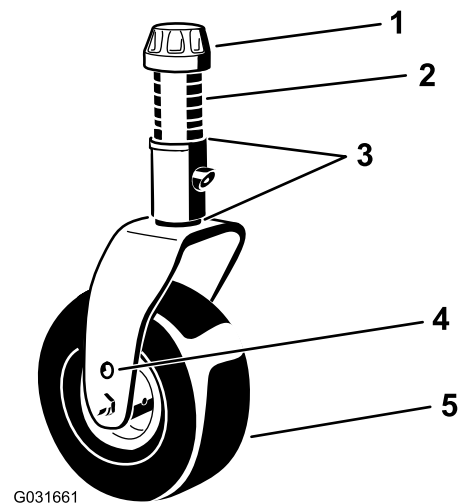
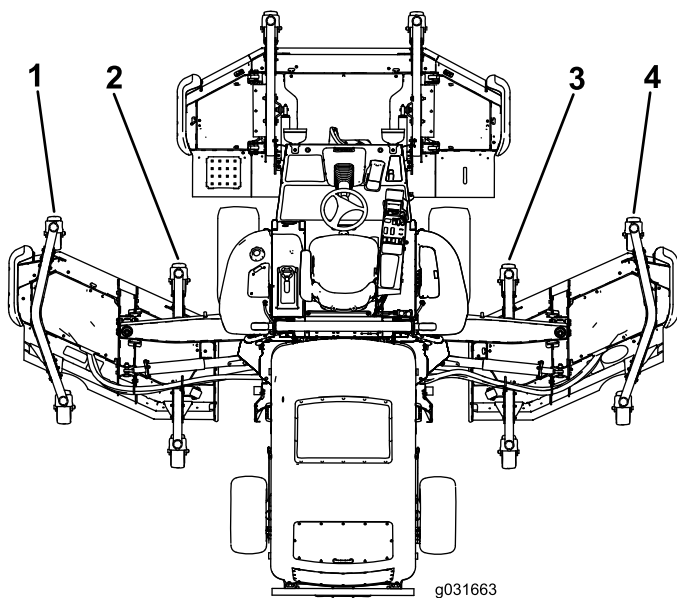

Figure 31
Figure 32
5. If the inside edge of the side mower deck is too high relative to the outside edge of the front mower deck, remove 1 shim from the bottom of the front, inside caster arm on the side mower deck (Figure 31 and Figure 32).
- If the inside edge is still too high, remove an additional shim from the bottom of the front, inside caster arm of the side mower deck and 1 shim from the front, outside caster arm of the side mower deck (Figure 31 and Figure 32).
- If the inside edge of the side mower deck is too low relative to the outside edge of the front mower deck, add 1 shim (1/8 inch) to the bottom of the front, inside caster arm on the side mower deck (Figure 31 and Figure 32).